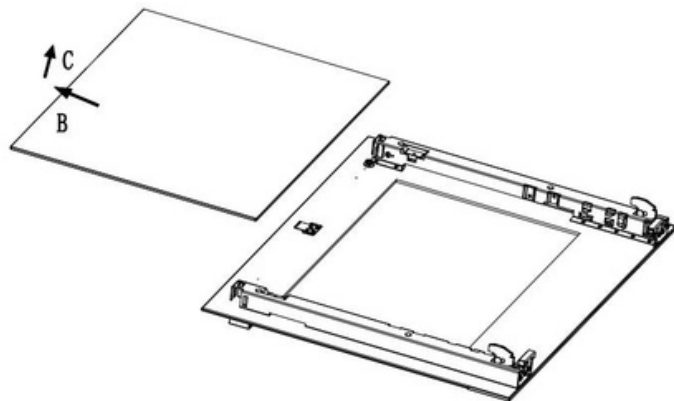

Fig. 6
4. Take out middle glass. (Fig.6)